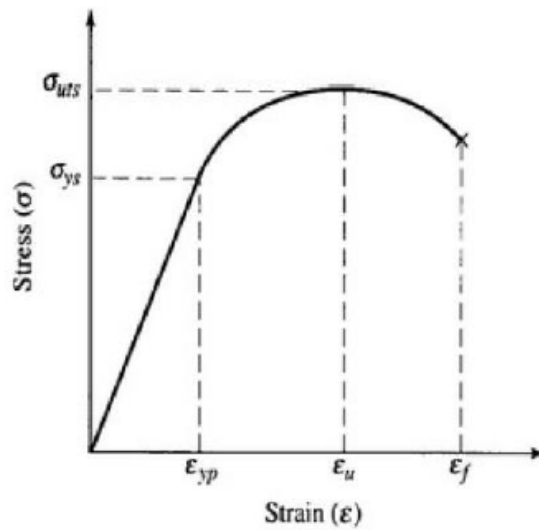

Fig. 7.119: Strain-Stress-Curve
- Young's modulus: The formulas shown above only work in the linear part of the *Strain-Stress-Curve*, which is shown in Fig. 7.119. In this area a constant factor between stress and strain exists.